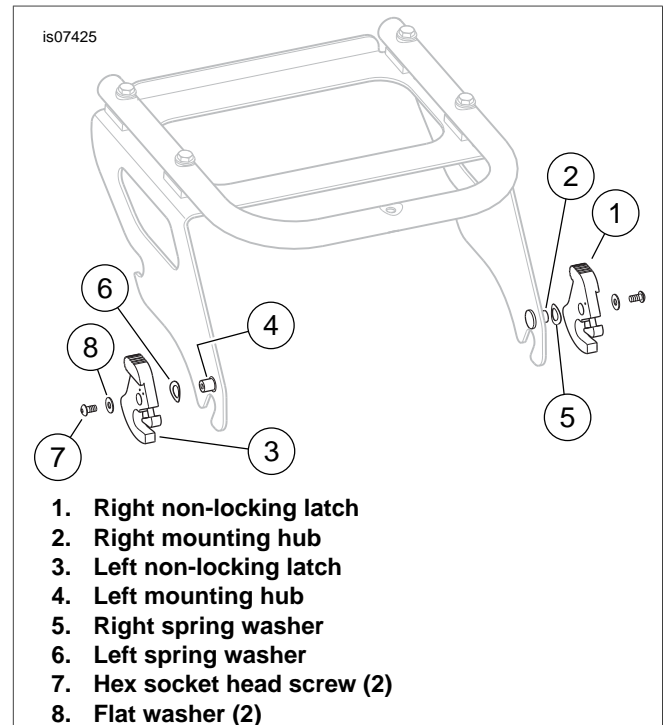
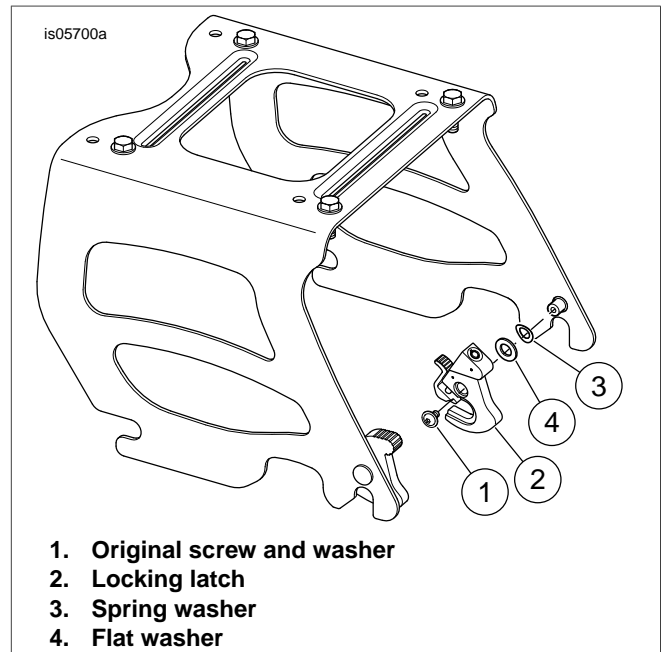

Figure 1. Latch Swap (Before Swap Configuration Shown)
Figure 5. Inner Right Installation
1. See Figure 1. Remove right non-locking latch (1). Leave right spring washer (5) on right mounting hub (2).
2. Remove left non-locking latch (3). Leave left spring washer (6) on left mounting hub (4). Install left non-locking latch (3) on right mounting hub (2).
3. Install right non-locking latch (1) on left mounting hub (4).
Two-Up Tour-Pak Rack	See Figure 1, Latch Swap AND Figure 5, Inner Right Installation
1. See Figure 5. Remove right non-locking latch and discard.
2. Install flat washer (4) from kit over spring washer on right mounting hub.
4. Install original screw and washer (1).